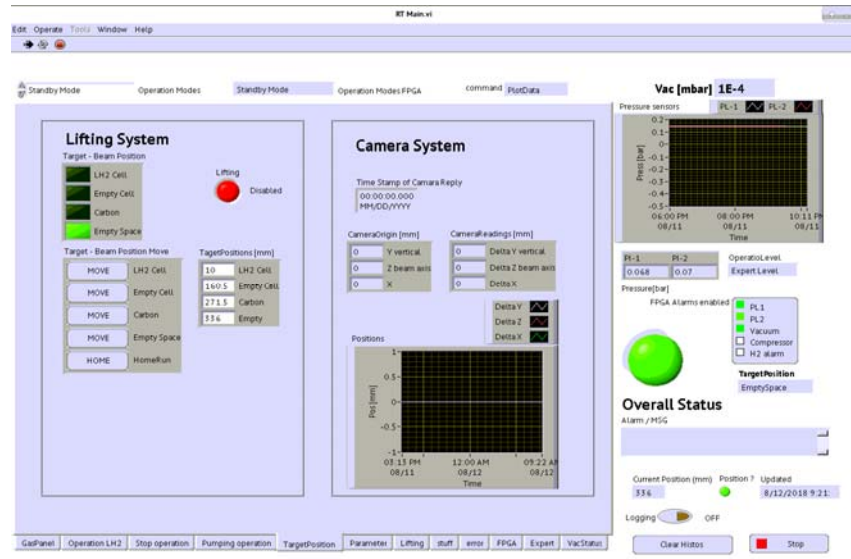

Figure 13: A picture of the 'TargetPosition' tab of RTMain.vi.
- c) enable 'Lifting' on 'TargetPosition' tab of RTMain.vi (Fig. 13),